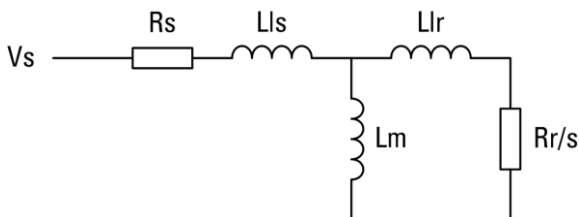

Figure 16 AC motor single-phase equivalent circuit
- A value for each of the electrical parameters of the induction motor as shown in Figure 16.